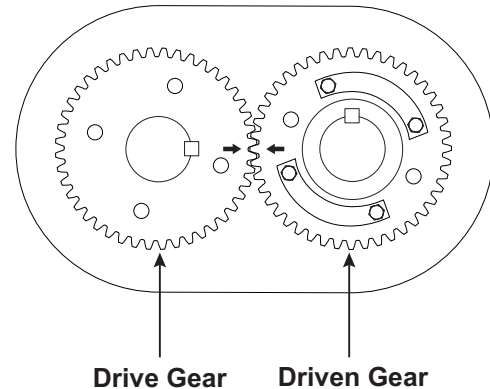
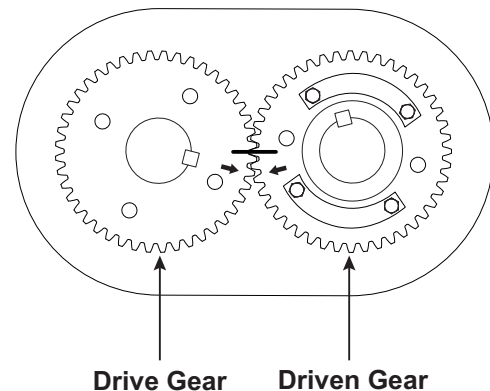

Figure 8-2 – Timing Marks Matched
Figure 8-3 – Timing Marks Advanced 3 Teeth (Reference Marks Aligned)
1. Make sure all parts are clean and free of nicks or burrs caused by disassembly. **See Figure 8-2 and Figure 8-3 on page 34** for dimension of seal pressing tools.